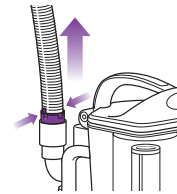

Fig. 29
- Detach the stretch hose from the back of the detachable canister by squeezing the tabs together and pulling up. **(Fig. 29)** Straighten out the hose and look inside for blockages.